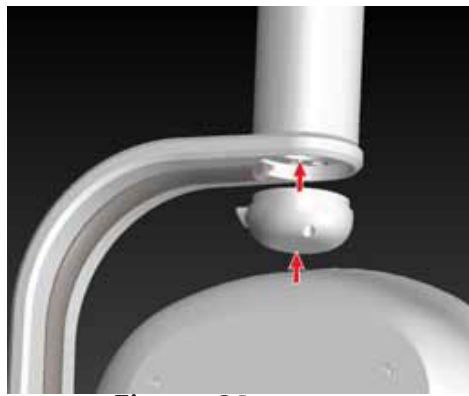

Figure 91
- Remove the rubber plugs of the wire cup using tweezer and then remove the wire cup on the L-arm by removing the 2 M3X25 screws using 2.5mm allen key as shown in Figure 91.